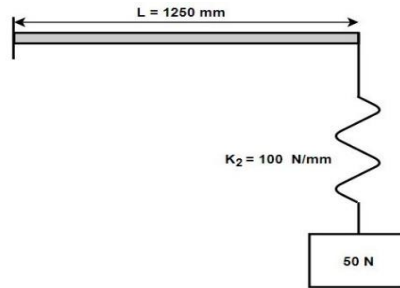

Fig. 9.1
9. Derive the natural frequency of the beam spring system shown in fig 9.1 consisting of a weight of $W = 50$ N attached to a horizontal cantilever beam through the coil spring k_2 . The cantilever beam has a thickness $h = \frac{1}{4}$ inch, width $b = 1$ inch. Modulus of elasticity $E = 30 \times 10^6$ psi, and length 1250 mm. The coil spring has a stiffness $k_2 = 100$ N/mm.